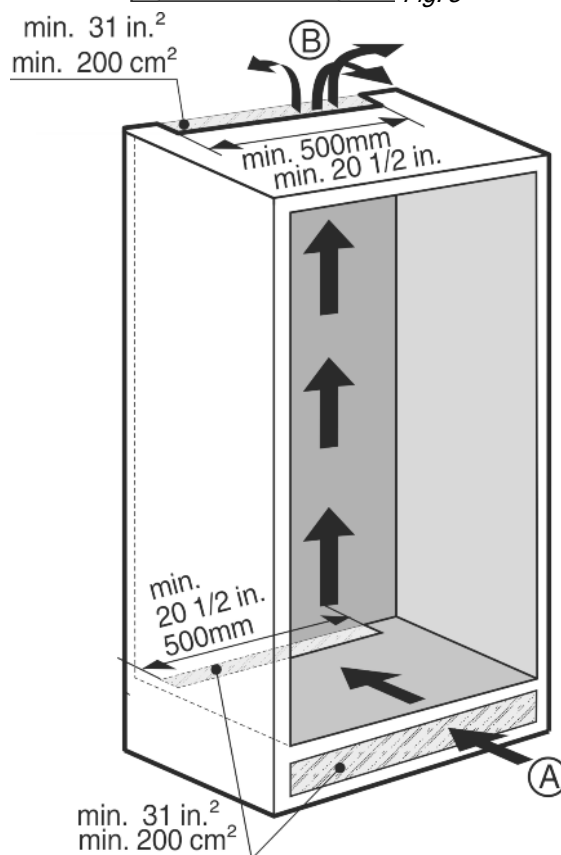

Fig. 6
- There must be an effective ventilation gap of at least 31 in² (200 cm²) per appliance for the air inlet *Fig. 6 (A)* and the air outlet *Fig. 6 (B)*.